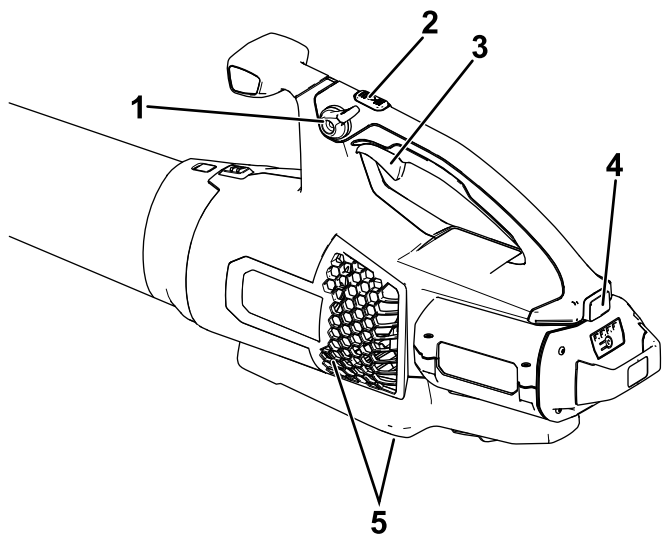

Figure 7
4. To start the blower, squeeze the variable-speed trigger (Figure 7).
Note: Engage the speed lock to keep the machine on without pressing the variable-speed trigger (Figure 7).
To achieve maximum performance (air speed), press and hold the turbo boost button for the desired amount of time (Figure 7).
To adjust the air speed as you blow, use the variable-speed trigger (Figure 7).
To maintain the current air speed, engage the speed lock (Figure 7).
To shut off the blower, disengage the speed lock (if in use) and release the variable-speed trigger (Figure 7).